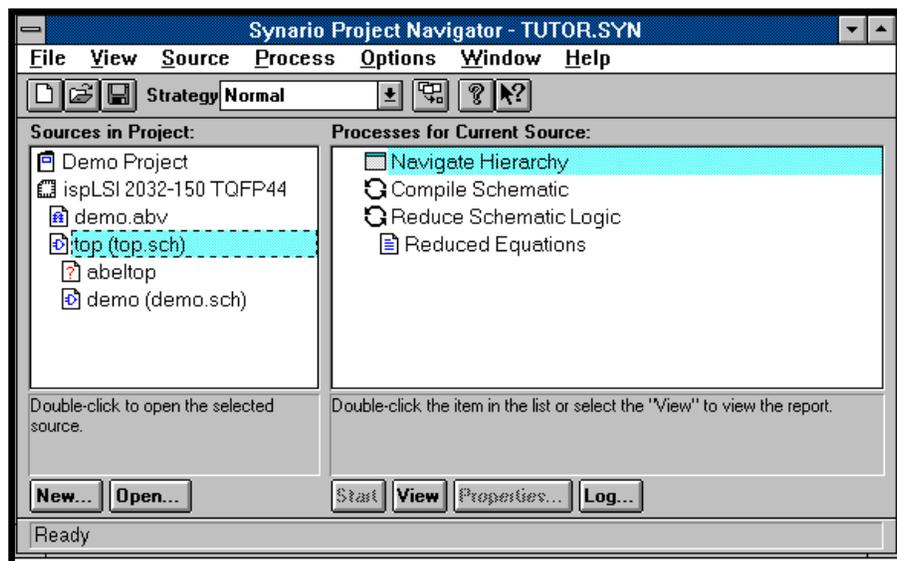

Figure 1-25. Synario Project Navigator
48. Your Navigator should look like the one in Figure 1-25. The “?” icon for abeltop means that the source is unknown since you have not created it yet. Also notice the hierarchy indents the abeltop and demo sources under the top schematic.